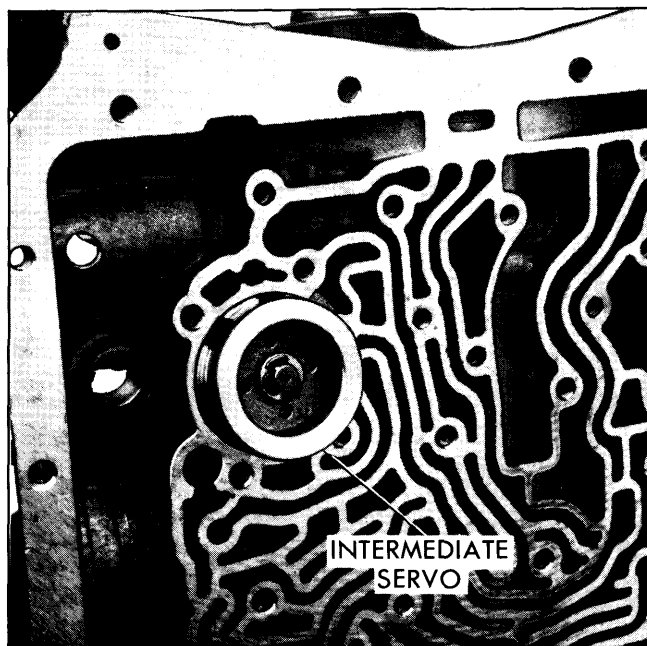
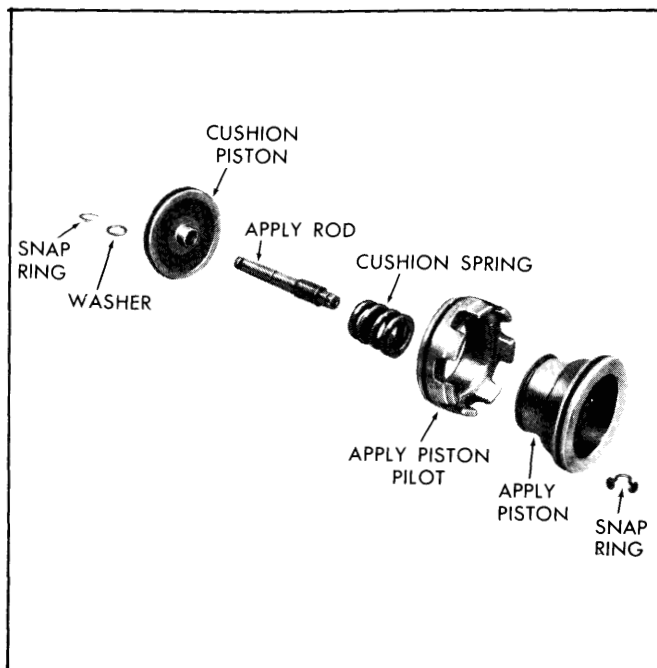

Fig. 7-36—Removing Intermediate Servo
Fig. 7-37—Intermediate Servo
5. Remove intermediate servo (Fig. 7-36) and disassembly as shown in Fig. 7-37.